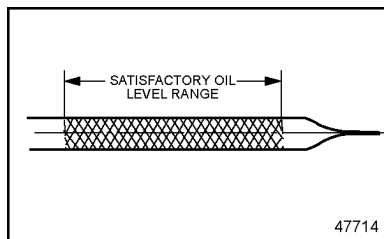

Figure 7 Check Lube Oil Level
1. Check the oil level using the oil dipstick. The dipstick has an operating range identified by a crosshatch. If the oil meniscus is within this crosshatch range then the oil range is adequate for engine operation. (See Figure 7).